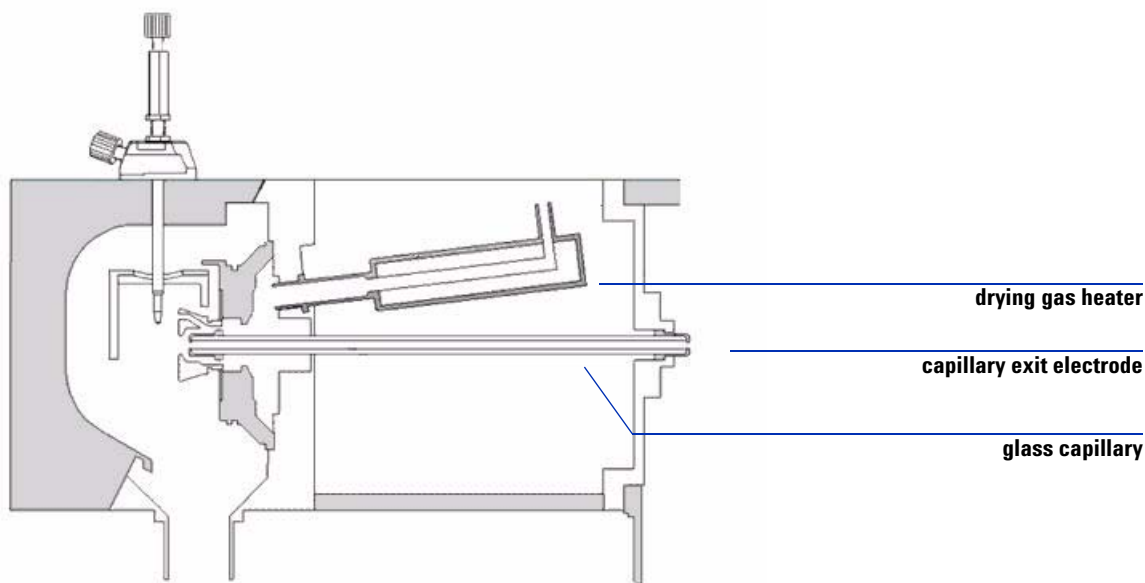
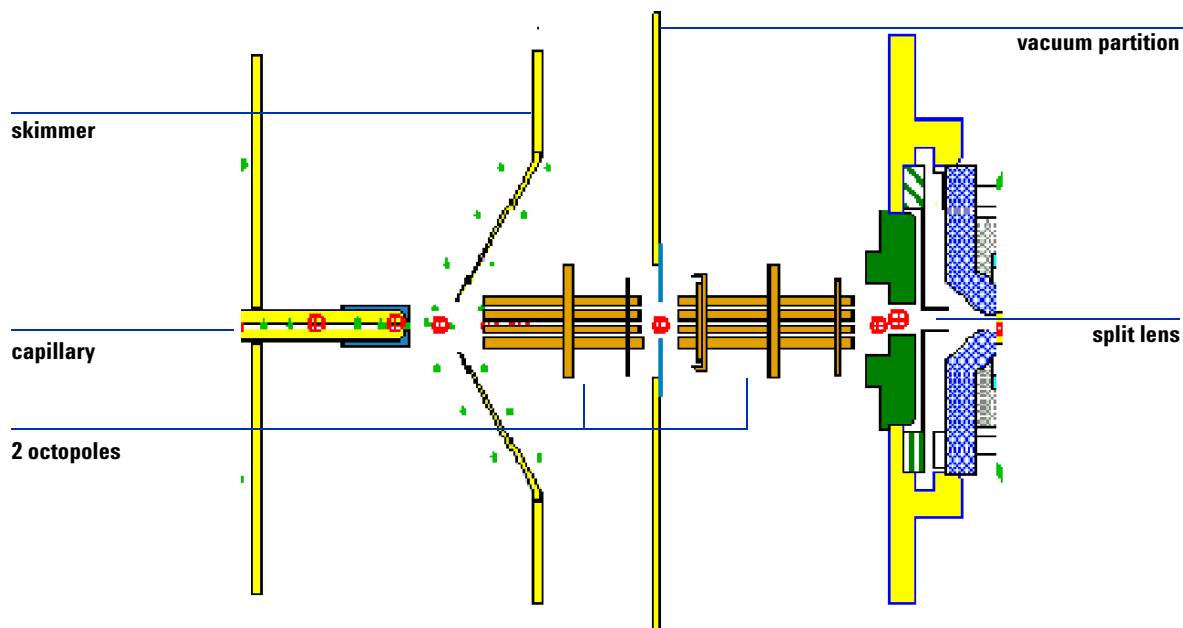

Figure 17 Electrospray source and sampling capillary diagram
Figure 18 Detail of skimmer and ion guide sampling
The ion transport and focusing region of the Ion Trap is enclosed in the vacuum manifold. Since the components of this region are not all visible when the source is assembled and installed, the diagrams in Figure 17 on page 22 and Figure 18 on page 23 may be helpful.
- The exit end of the capillary (see Figure 17) is typically set in a range from 80 – 280 V through the instrument control program. As ions exit the capillary, they are electrostatically drawn towards the first skimmer, which is at a lower voltage. Because of the dimensions of the capillary and the pressure gradient, the ions emerge from the end of the capillary in a subsonic jet flow.
The skimmer(s), ion guide (octopoles), and lenses (see Figure 18) concentrate and focus the analyte ions. You can set voltages for the skimmer(s), octopole (dc and rf) and exit lenses in the TrapControl program. The voltages established for these ion-optical components determine the ion transport efficiency as well as the background level of spurious noise events.